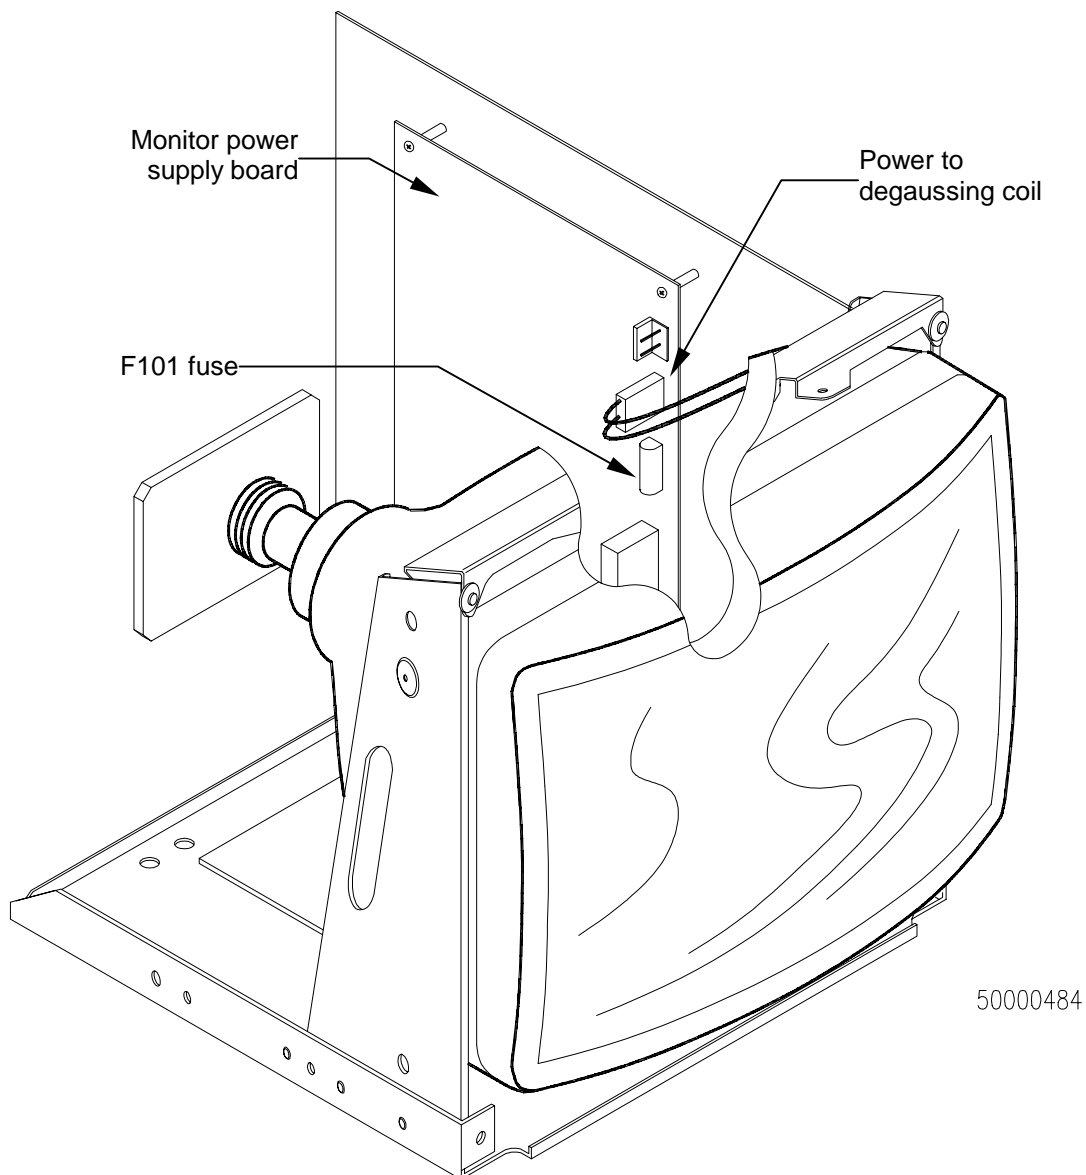

Figure 1 - Location of F101 for Type 8 Wells-Gardner Monitors
7. Locate F101 on the monitor power supply board (see Figure 1).